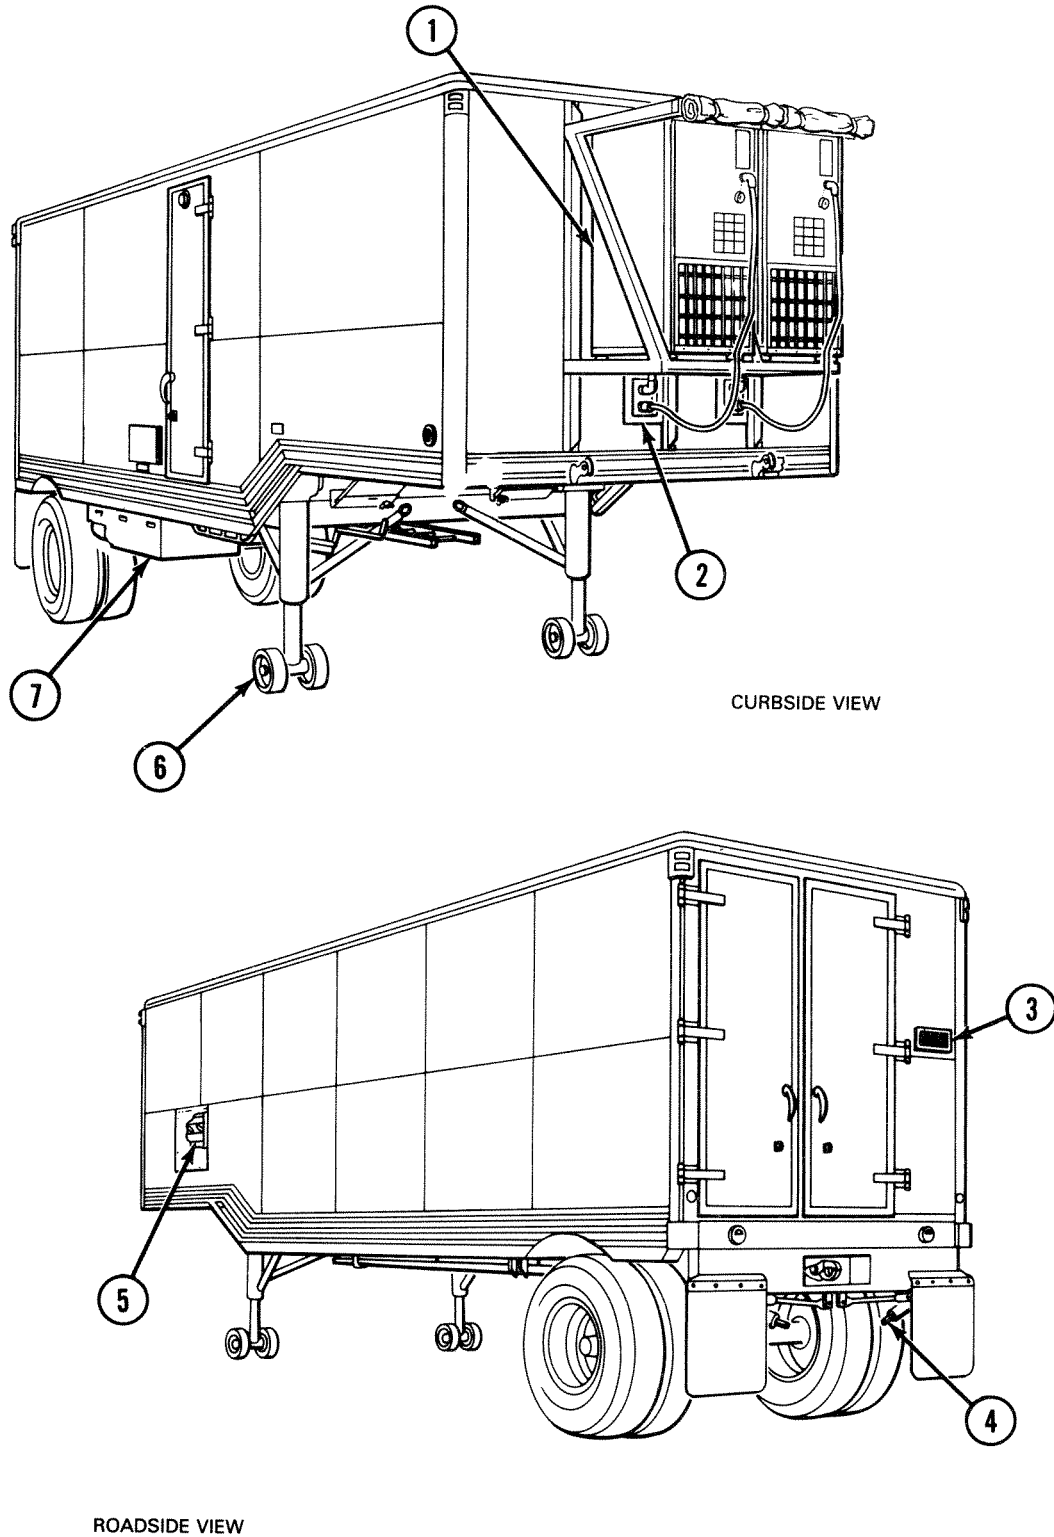

Figure 2-39. Repair Parts Shop Major Exterior Features
a. *Exterior Features.* Figure 2-39 shows repair parts shop major exterior features.